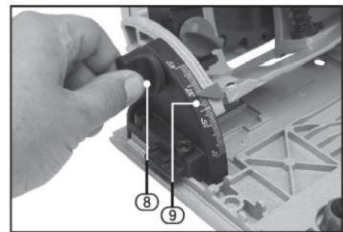

FIG.8
11.4 Cutting angle adjustment (Fig. 8)
- Unfasten the angle adjustment knob (8) on both sides, set the desired angle on the scale (9) and retighten the knob.